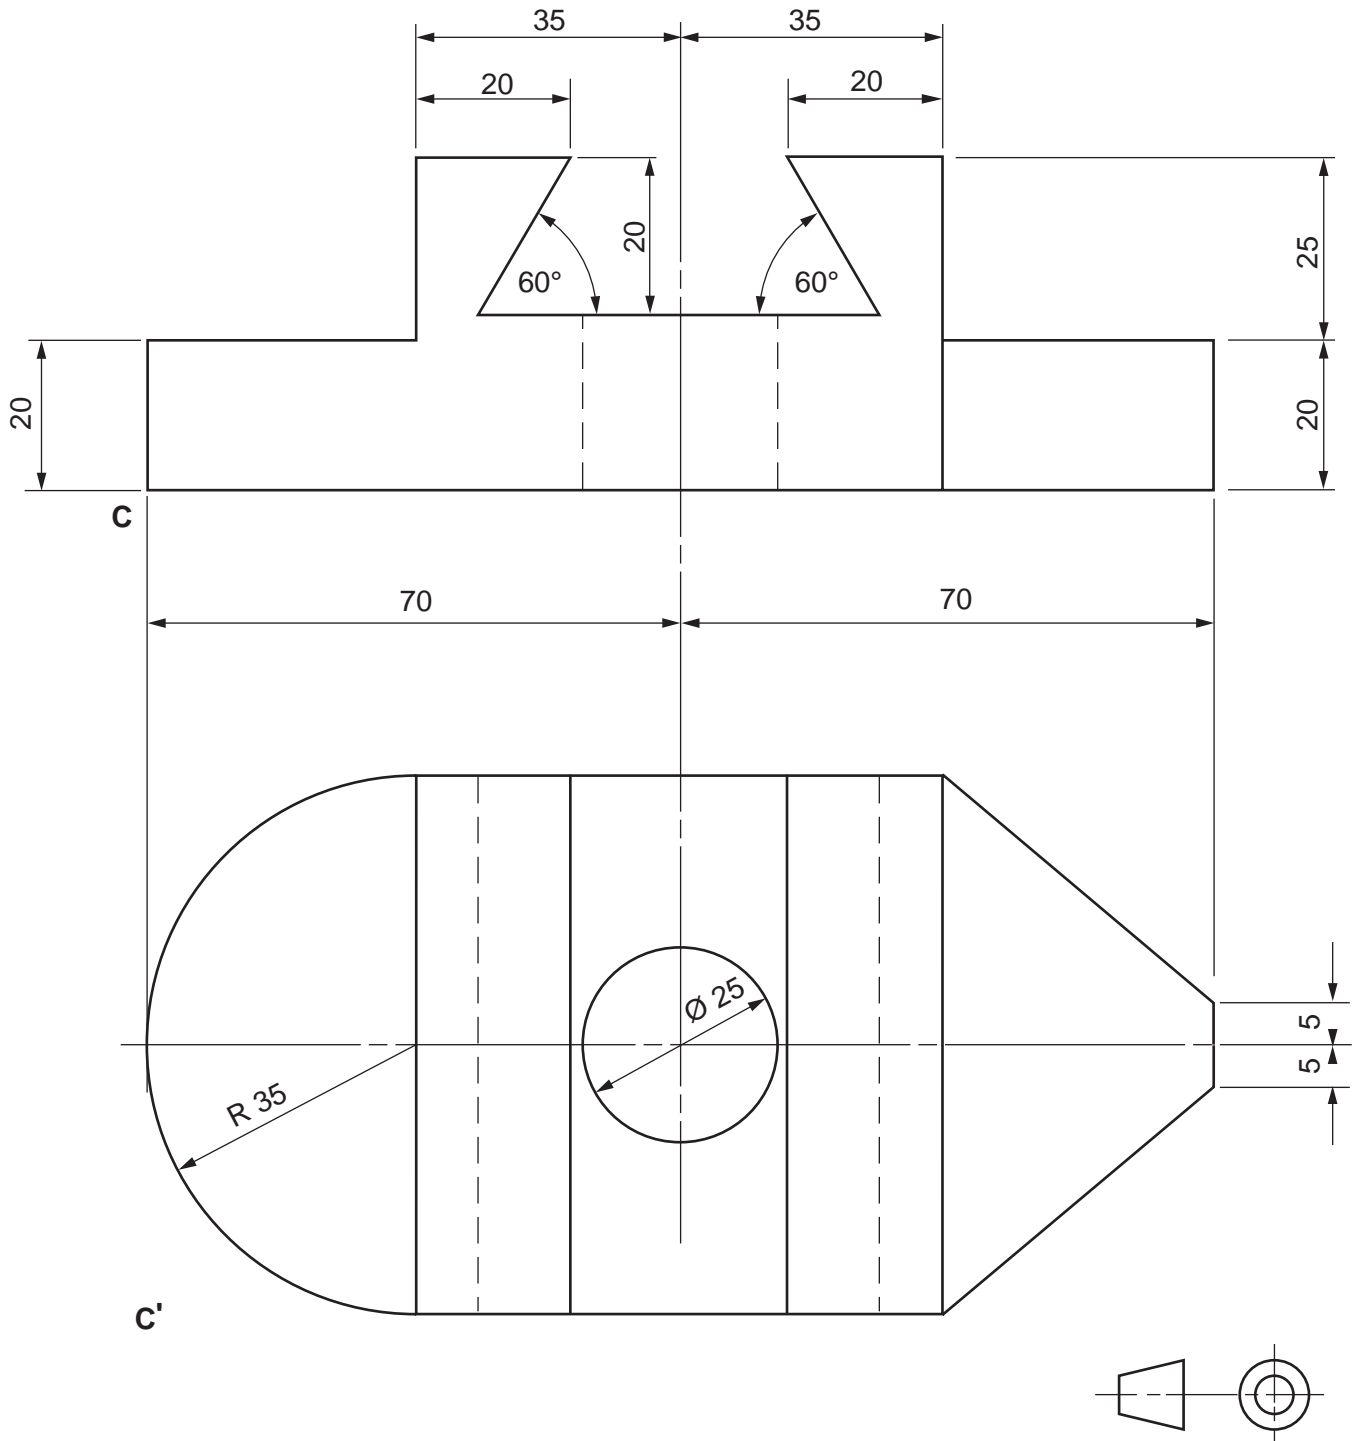

Fig. 6
- 6 Fig. 6 shows two views of a pivot block drawn in first angle projection. Draw an isometric view of the pivot block with **C** the lowest point in the view. Do not use an isometric scale or show any hidden detail. [20]